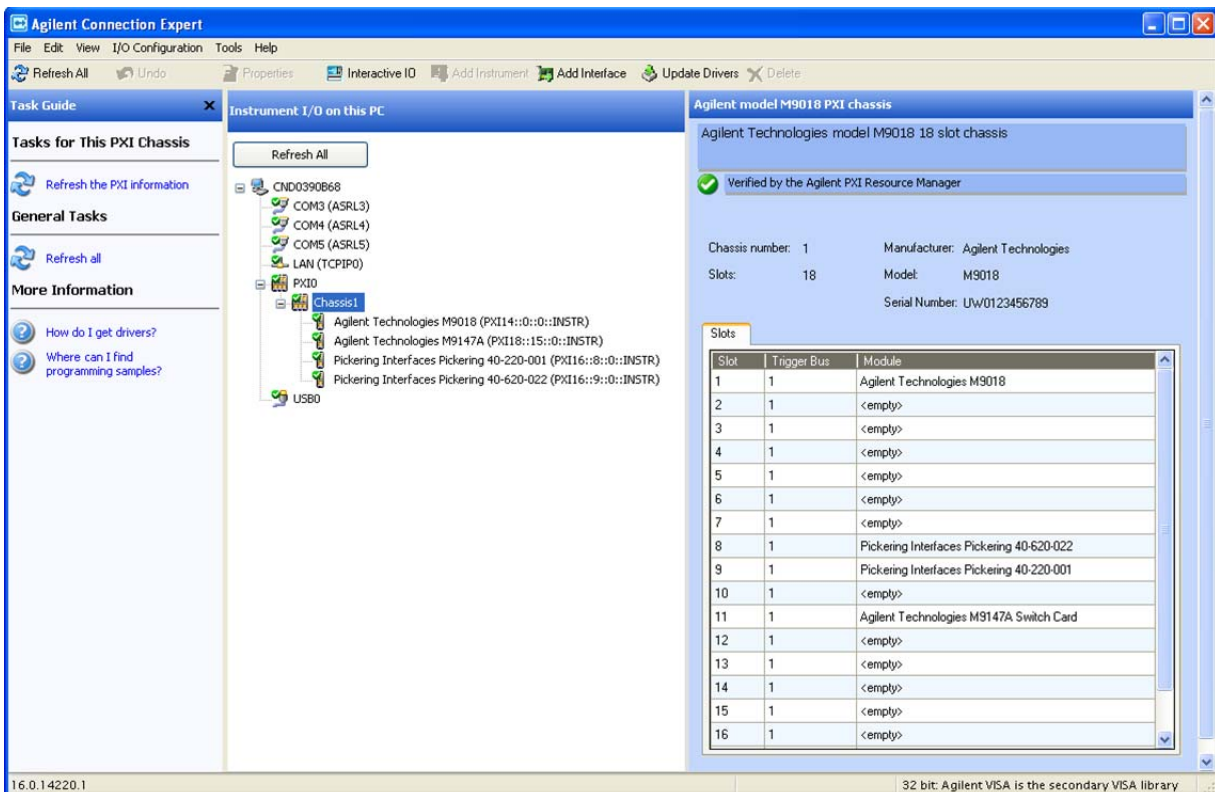

Figure 11 Agilent Connection Expert display of the chassis contents
- 2 Once Agilent Connection Expert is running, a chassis indicator should appear under the PXIO label in the **Instrument I/O on this PC** pane as shown in Figure 11—in this case, the chassis indicator is “Chassis1”. Clicking “Chassis1” displays the contents of each slot in the M9018A chassis in the right pane under the label **Agilent model M9018A PXI chassis**.